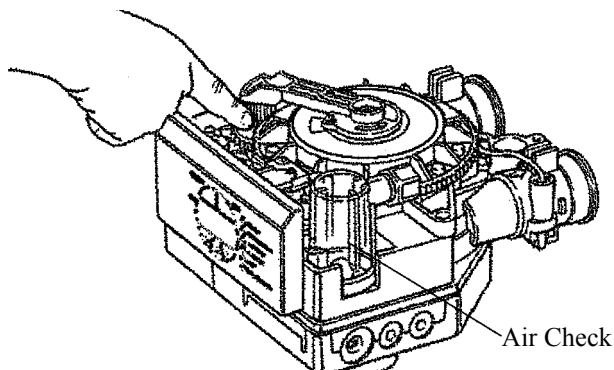

Figure 10
3. With the cam gear disengaged, rotate the cam gear counterclockwise to the Refill position until the air check, Figure 10, fills with water, and water flows through the brine line into the brine tank. Do not run for more than three minutes.
5. When water is being drawn from the brine tank, press down on the drive gear and rotate the cam gear counterclockwise to just before the Service position, Figure 10. Connect power to the control and allow the motor to drive the cam gear to the Service position, the motor will stop. Run cold water from a nearby faucet until the water is clear and soft.